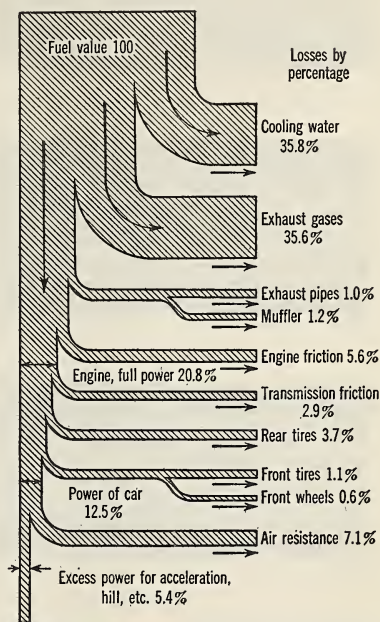

FIG. 838. Energy diagram for a car traveling about 40 miles per hour.
20. Is the energy in gasoline kinetic or potential? Discuss the transformations of energy involved in starting and running an automobile. See energy diagram, Fig. 838.